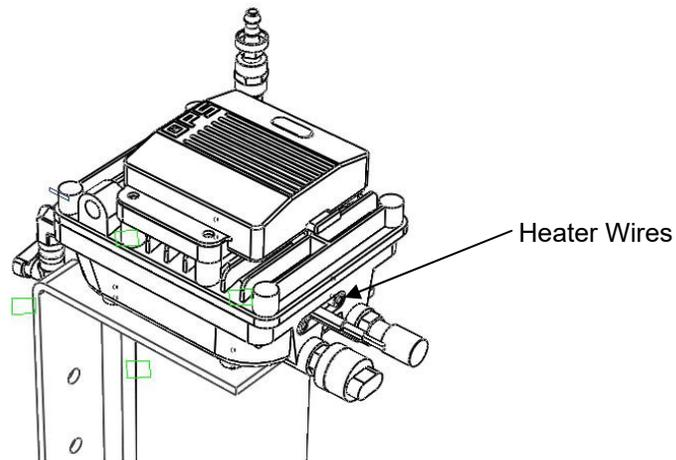

Figure 6: Heater Wires
- Heaters with **BLACK** wires (See Fig. 6) are for a **12V** system.